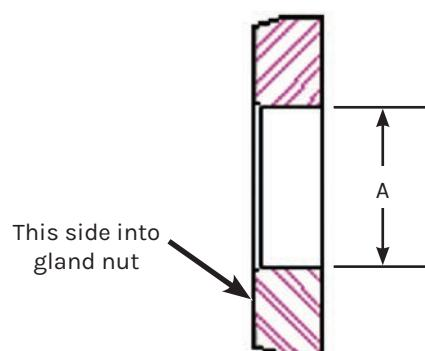

Figure 94: Guide Bushing Check (40K Only).
2. On 40K units, measure the diameter of the guide bushing (Figure 94, A). If the diameter exceeds the Dimension A specification listed in the "40K Guide Bushing Replacement Table" below, replace the bushing. If the bushing shows scoring or if the edge is chipped, replace the bushing.